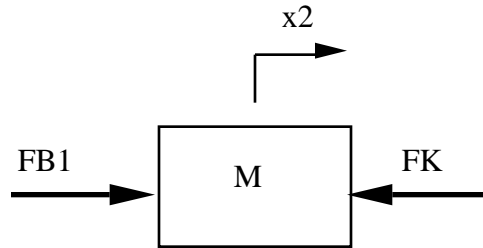

Figure 3 Free body diagram of the mass of the system of figure 1
The next step is to show each displacement as a free body diagram. The mass is drawn in figure 3 showing the forces due to B1 and K as they attach to the mass.
Obviously FB1 is equal to F(t). This can be put into equation (1). The force FK is due to the relative displacement of each end of the spring. The easiest method to determine this is to imagine holding one end still, say, the x2 end, and displacing the other end, x3, in the positive direction. When this is done for the example system, the resultant force will be to the right. This is in the opposite direction as indicated in figure 3.